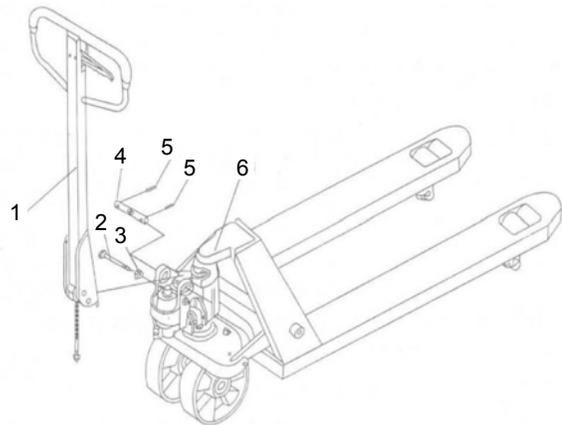
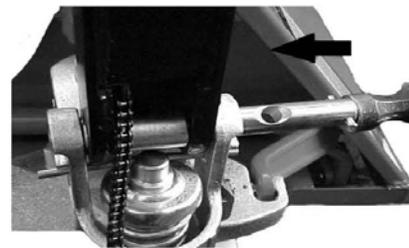

Figure 2 Handle Assembly
Figure 3 Axle Assembly
- 1) Insert the handle arm (Item 1, Fig. 2) into the pump piston, then use a hammer to insert the axle with hole into the hydraulic pump and handle arm from right to the left (Fig. 3).
- 3) Press the handle arm down; take away the pin (Item 2, Fig. 2).
- 4) Set the control lever of the handle to 'LIFT' position, then raise the lever plate with the pin (Item 2, Fig. 2) and insert the adjusting bolt into the front slot of lever plate. Note: Keep the adjusting nut under the lever plate.
- 5) Use a hammer to insert the 2nd dowel pin (Item 5, Fig. 2) into the 2nd hole of the axle. The draw-bar is now assembled to the pump.